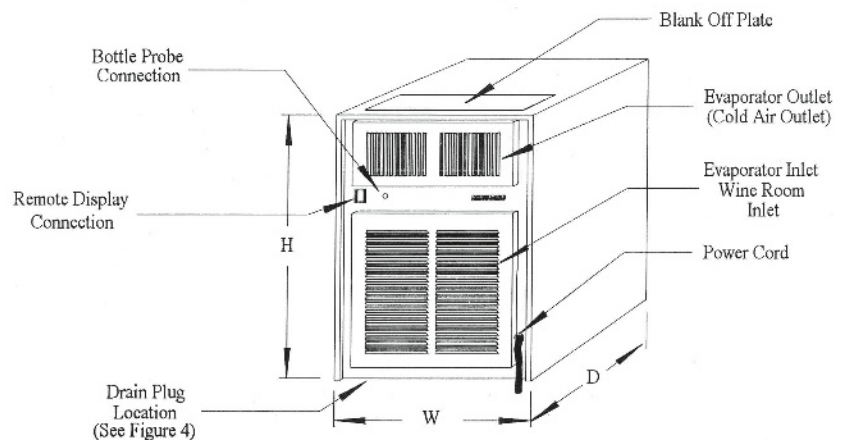
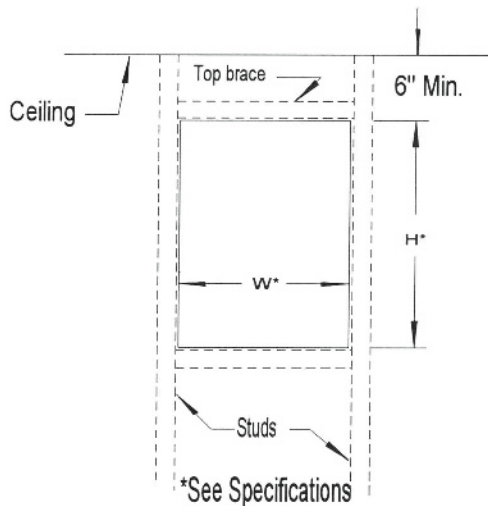
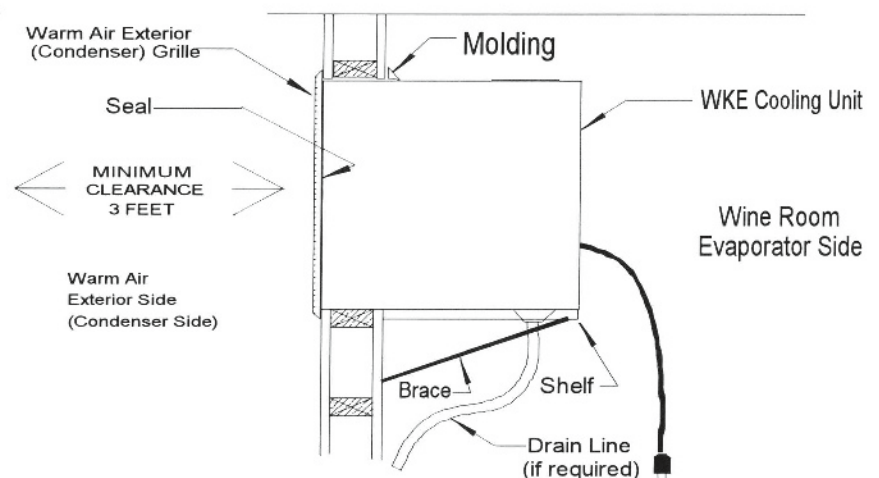

Figure 1
Figure 2
Figure 3
Before installing the unit, inspect it again for any shipping damage. Test the unit by placing it in a room where the temperature is above 65°F. Position the unit to allow cold air to flow from evaporator outlet. (See Fig. 1) Plug the unit's electrical cord into a properly grounded electrical outlet of adequate capacity (see unit specification for unit electrical requirements).
The thermostat has no "off" position; therefore it will begin to run within 5 minutes of being plugged in. Allow it to run for a minimum of 15 minutes. There should be a flow of cool air from the evaporator side upper grille (see Fig. 1) and warm air should be flowing from the rear opening on the exterior condenser grille side (see fig. 3). If there is no airflow or no change in temperature on either side, contact your dealer.
- ☞ This is a mechanical piece of equipment, it will make noise and produce heat on the warm side exterior condenser grille (Fig. 3). Remember, unit installation location is not only important inside the wine cellar, but just as important is where the warm side exhaust air is being rejected.
- ☞ Select a place to mount the unit where the warm airflow from the exterior condenser grille (see Fig. 3) is unobstructed for a minimum of 3 feet. The area into which the unit exhausts must be well ventilated. If not, the unit will be unable to reject the excessive moisture and heat, resulting in unsatisfactory performance.
☞ Additionally, cold air flowing from the upper cold side grille must remain unobstructed for 3 feet. It is preferred that the unit be mounted near the ceiling and as close to equal distance from each end of the wall as possible. If necessary, these units may be mounted near the floor if the upper grille is interchanged with the blank off plate so that the cold air will be directed up (See Fig. 1). There should be nothing above the unit to block airflow. Remove the insulation under the blank off plate with a knife.
- ☞ Make sure that the warm air exhaust condenser grille can be properly attached to the unit (see fig. 3). NOTE: The unit will not work properly without this grille.
- ☞ Make a hole through the wall as illustrated in Fig. 2. The dimensions of the hole should be approximately 1/4 inch larger than the width and height given in the specifications. If the unit is to be installed above floor level, construct a shelf as shown in Fig. 3. This shelf must be capable of supporting the weight indicated in the specifications. NOTE: Insulation placed between the unit and the shelf will reduce additional noise and help reduce condensate from forming on the underside of the unit.
- ☞ Place the unit through the opening with the warm air exhaust side, flush to the outside of the wall (see fig. 3). Attach the exterior condenser grille to the unit and to the wall with screws supplied with grille. Note: the unit may be installed with the cold side flush to the inside wall, however, 2 provisions must be made. First, insure the exterior condenser grille will be installed. Second, insulate and vapor barrier the framed opening to prevent any wall moisture from condensing on the cold surface of the cooling unit in the wall.
BREEZAIRE is extremely proud of the quality and reliability of its products. Experience has shown that of the small number of problems encountered, the large majority are due to improper unit selection or enclosure construction. Should the cooling system be suspected of malfunctioning, check the temperature of the air being exhausted from the upper part of the exterior condenser grille. If it is warm, the unit is working. A further check may be made by comparing the temperature entering the lower grille on the cold side (Evaporator side) with that leaving from the upper cold side grille. (see Fig. 1) If the air leaving the unit is 6°F or more degrees colder than the temperature entering, the unit is working properly.
Obstruction to the free flow of air into or from the cooling unit (see Fig. 3) for any reason can cause the unit to heat rather than cool the enclosure.
Allow the enclosure to stabilize at the desired temperature for several days. Fill a suitable bottle with wine (preferably) or water, insert the bottle probe into the bottle, and place it in the enclosure. Do not connect the probe to the unit until the bottle has had sufficient time to cool to the enclosure temperature (several days). Connect the probe to the outlet located on the front face of the unit (see fig. 1). The on and off operation of the unit is now controlled by the temperature of the wine in the bottle. The temperature displayed is that of the bottle. Unplugging the probe will return control of the unit to the room air temperature.